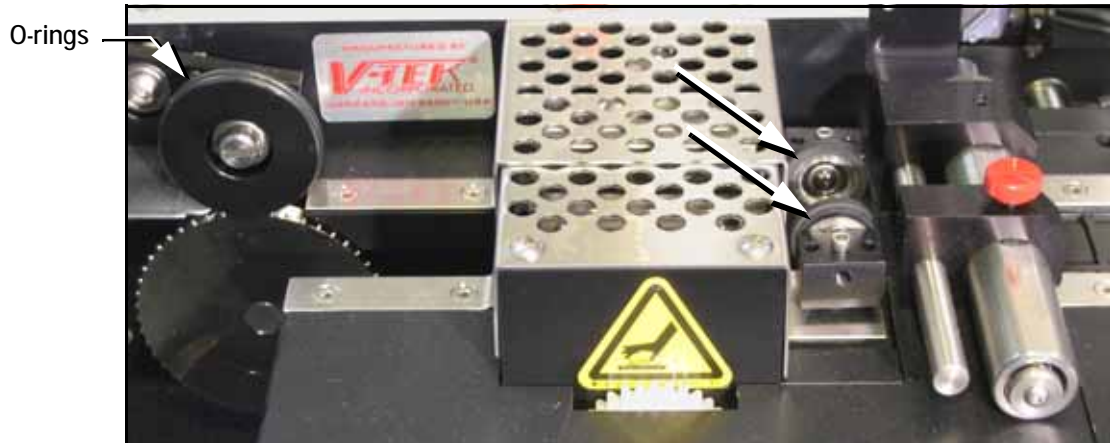

Figure 4-62: On the Tape Out Module, the **PSA Seal Rollers** (arrows) and Sprocket Idler with O-rings.
- 4a. Inspect the seal rollers for build up of adhesive from the cover tape. See Figure 4-62.
- 6a. Inspect the drive sprocket top idler and rubber O-rings for any build up of adhesive from the cover tape. See Figure 4-62.